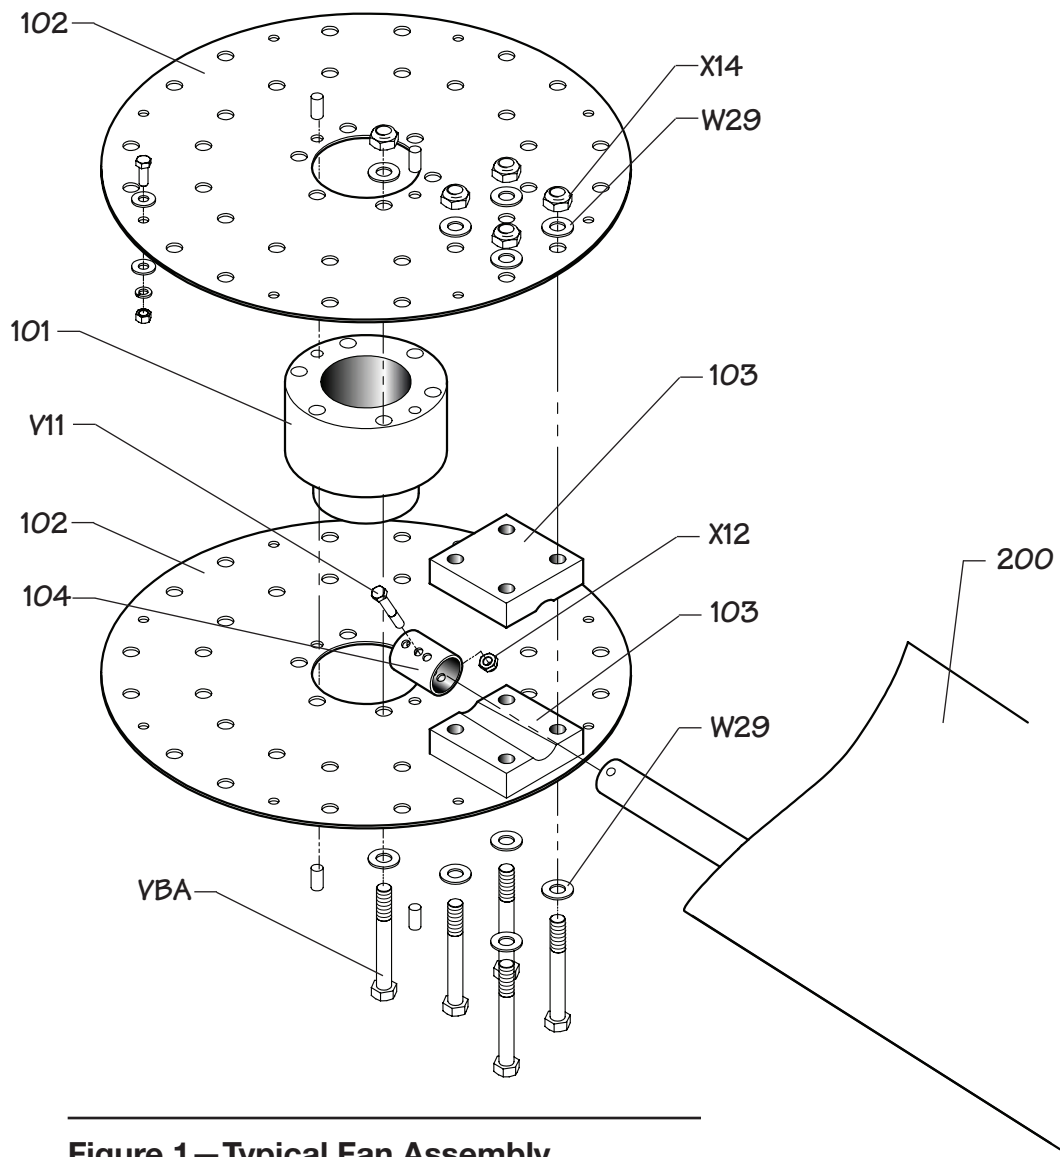

Figure 1 – Typical Fan Assembly
- 2—Position the fan hub in the center of the work area with the center spool **101** oriented as shown in **Figure 1**.